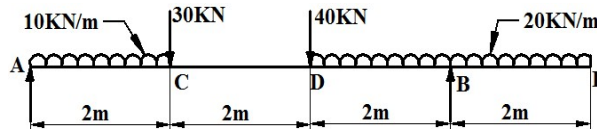

Figure 25
14. For the beams shown in **Figure 25**, draw shear force and bending moment diagram. Locate point of contra flexure if any